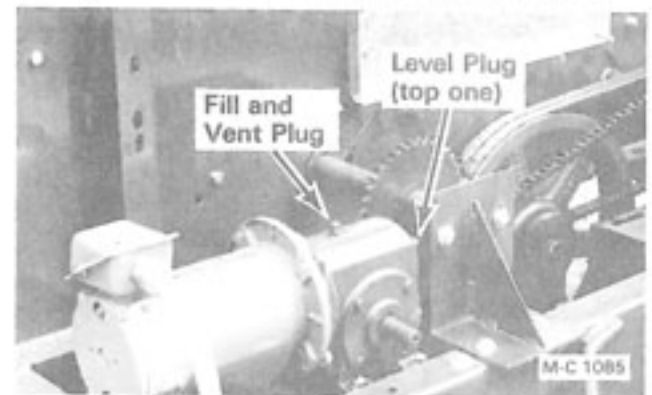

Figure 31
2. **SCR Drive Gear Box** - Remove the oil level plug (top one) on the end of the gear box, see Figure 31. The oil level should be even with the bottom of the hole. If not, remove the vent plug on top of the gear box and add Mobil SHC 634 oil or equivalent until it just runs out. Install the level and vent plug.